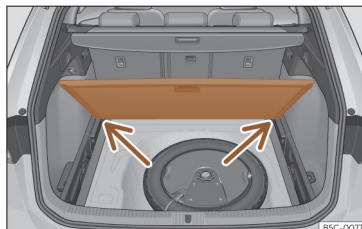

Fig. 188 Variable boot floor: tilted position.
- Rest the floor on its housings >>> **Fig. 188** (arrows).